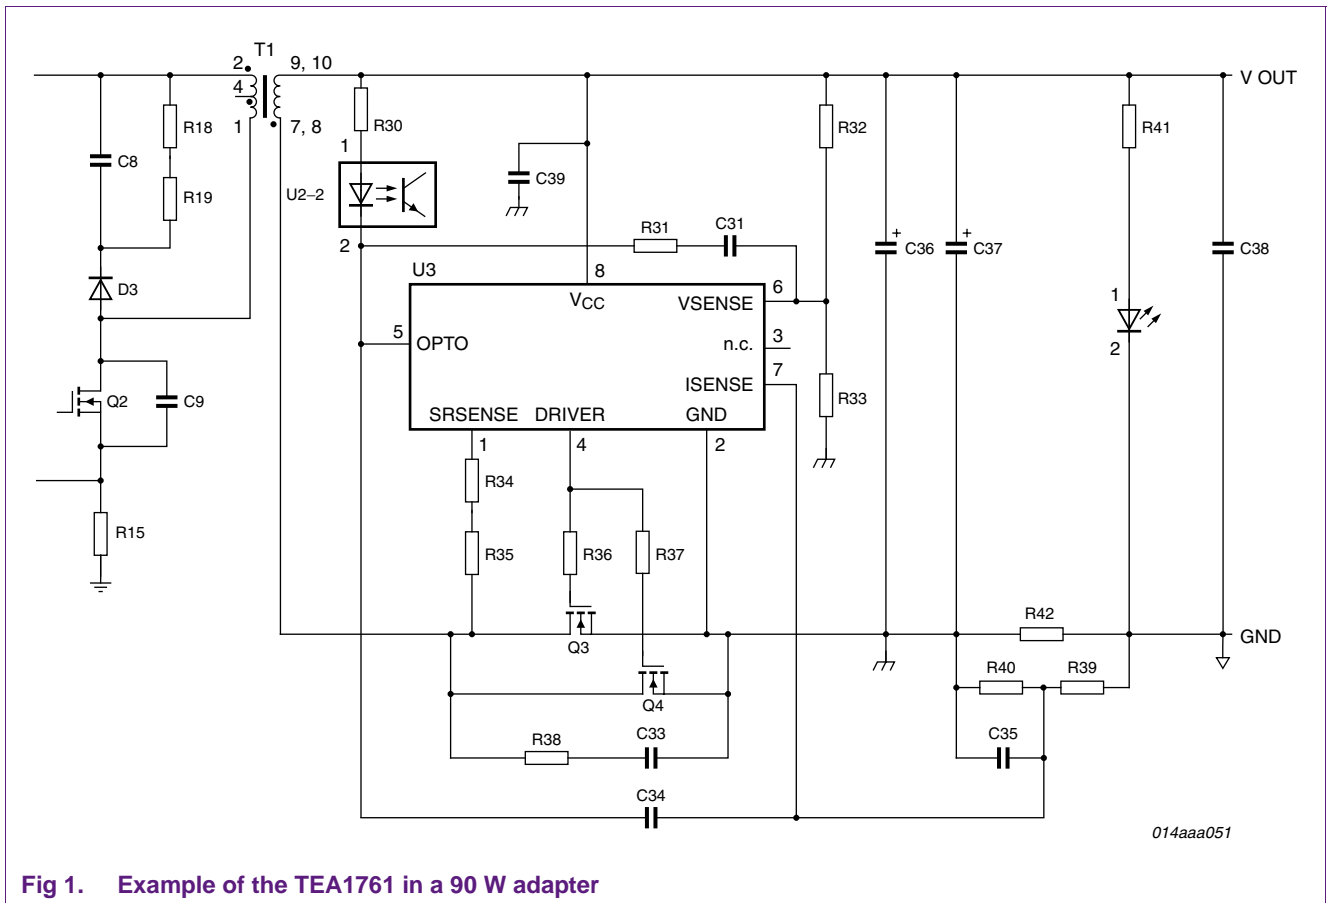
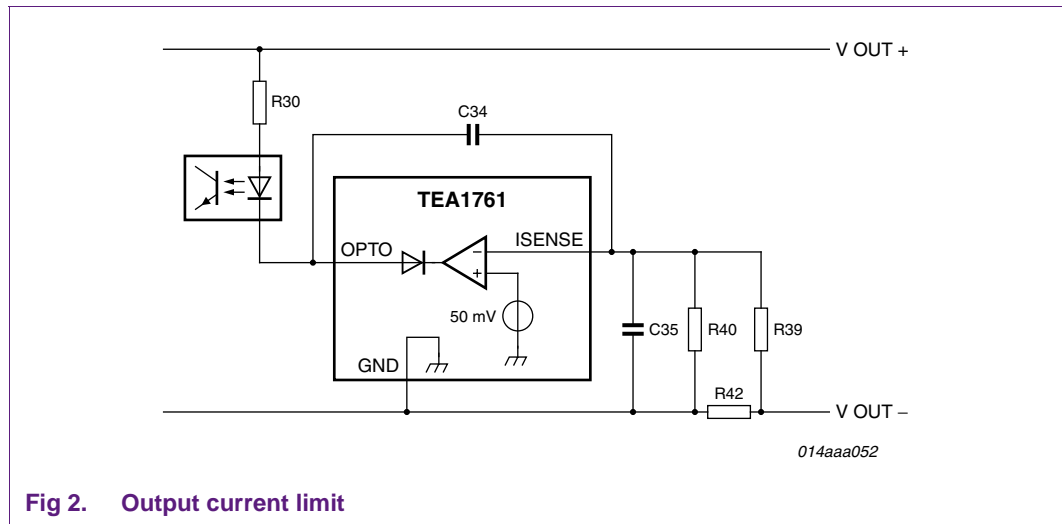

Fig 1. Example of the TEA1761 in a 90 W adapter
Fig 2. Output current limit
Figure 1 shows a typical synchronous rectification application using the TEA1761.
The function of the resistors (R34 and R35 in Figure 1) is to limit the current in the SRSENSE pin if the ESD protection is triggered. A total resistance value of  $1 \text{ k}\Omega$  is sufficient to protect pin SRSENSE. Because of the peak power rating, two SMD 1206 resistors are used.
The application of the voltage feedback circuit is similar to well known circuits using a TL431 or TSM103. The internal reference voltage is  $2.5 \text{ V}$ , accuracy within  $1 \%$ . A voltage divider (R32 and R33 in Figure 1) is used to set the output voltage of the application. The output voltage can be calculated with the equation:
The phase and gain margin of the system can be set with a feedback network between the OPTO output and the VSENSE pin (R31 and C31 in Figure 1).
The output current of the application can be limited by sensing the voltage across a current-sense resistor (R42 in Figure 2). The internal reference voltage of the current-sense circuit is 50 mV. Therefore the voltage drop across the current-sense resistor must be more than 50 mV. The resistor divider (R39 and R40 in Figure 1 and Figure 2) is used to adjust the actual output-current limit and to act as an RC filter in combination with C35.
4. Enable the TEA1761 ISENSE circuit and adjust the voltage divider (R39 and R40 in Figure 1) such that the output current is limited to 120 % of the nominal output current. Some adjustment of the value of C35 may be necessary.
4. Enable the TEA1761 ISENSE circuit and adjust the voltage divider (R39 and R40 in Figure 1) such that the output current is limited to 120 % of the nominal output current. Some tuning of the value of C35 could be necessary.
The functions of the voltage feedback and the current feedback are combined to one open-drain OPTO output. It is possible to make two separate feedback circuits from this single output, one to pin VSENSE (R31 and C31 in Figure 1) and one to pin ISENSE (C34 in Figure 1).